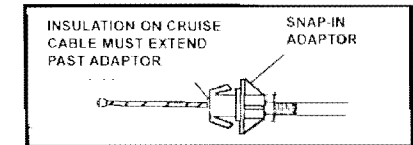

Figure 21
2. After the threads have been formed, screw the SNAP-IN ADAPTOR onto the CRUISE CABLE. **Figure 21**